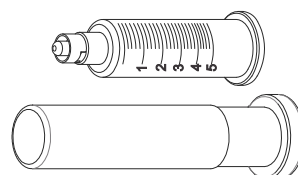

Fig. 5
Disassembled the syringe i.e. remove the plunger (13) from the barrel (10) as shown in Fig 5